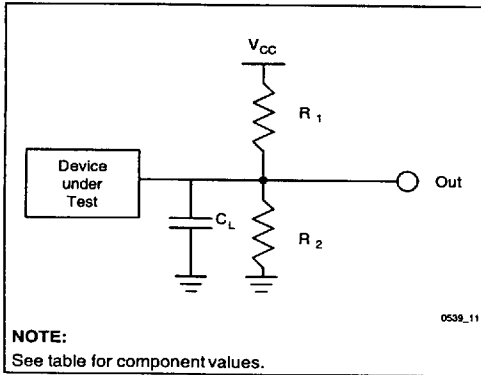

Figure 19. Test Configuration
- See Test Configurations (Figure 19), 2.7V–3.6V and 3.3 ± 0.3V Standard Test component values.
- See Test Configurations (Figure 19), 5V Standard Test component values.